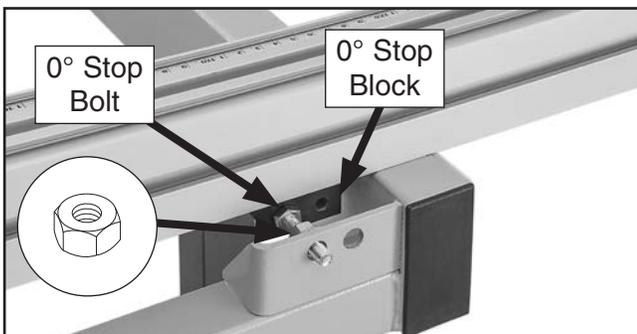

Figure 160. Stop block against 0° stop bolt.
3. Move crosscut fence stop block against 0° stop bolt (see **Figure 160**), then retighten angle scale knob bolt to secure fence in place.
8. Loosen hex nut on the 0° stop bolt shown in **Figure 160** on the previous page, rotate 0° stop bolt to square crosscut fence, then retighten hex nut.